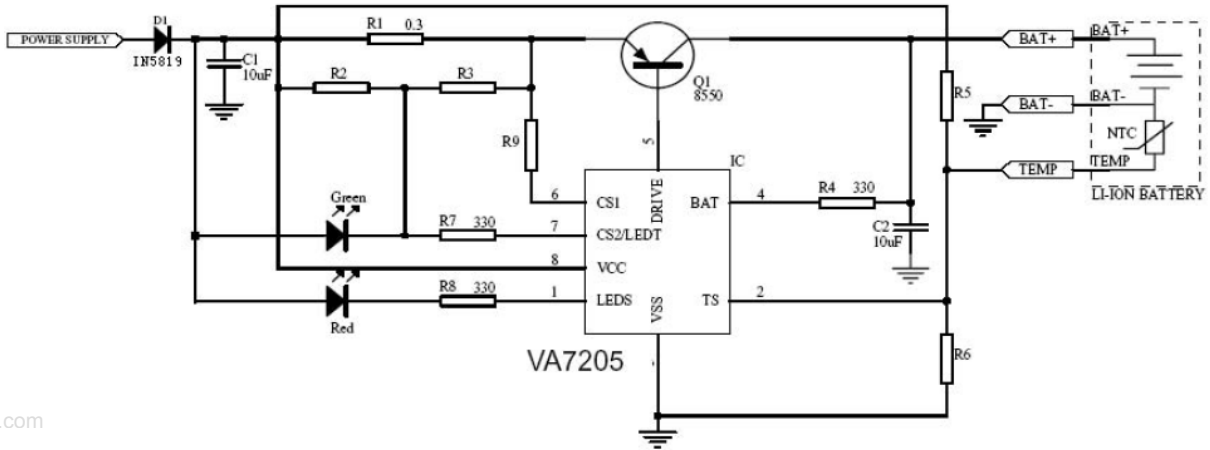
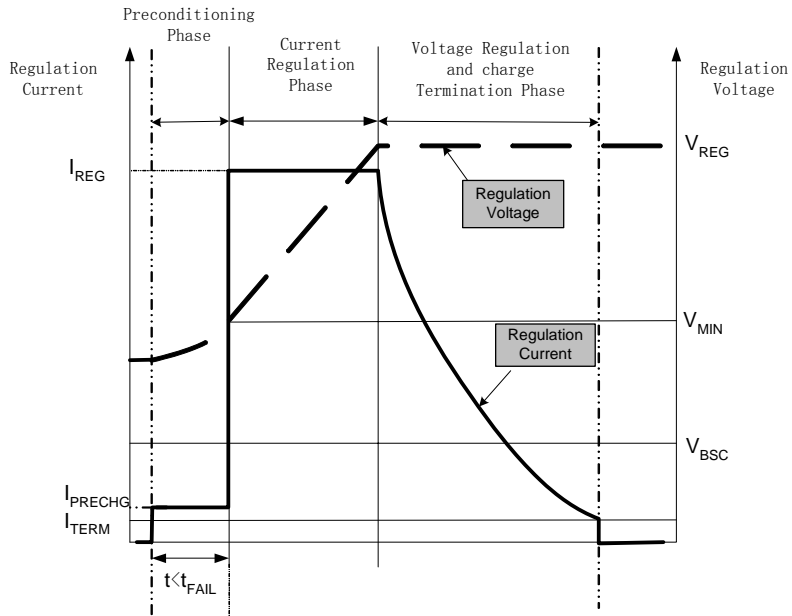

Figure 3 Li-ion/Li-Pol Charger Using a PNP Pass Transistor
Figure 4 Typical Charge Profile
2. Please use application circuit schematic in Figure 3 and Figure 5.
The VA7205 is an advanced linear charge controller for single Li-Ion or Li-Pol applications. Figure 3 shows the schematic of charger using a PNP pass transistor. Figure 4 is a typical charge profile. Figure 5 shows the schematic of a charger using P-Channel MOSFET. Figure 6 is an operational state diagram.
Charge qualification is based on battery voltage and temperature. If the battery voltage is below the pre-charge threshold V_{MIN} , the VA7205 uses pre-charge to condition the battery. The conditioning charge current I_{PRECHG} is adjustable with an external resistor R9 shown in Figure 3 and Figure 5. R9 is connected between CS1 pin and the emitter of external PNP or source of external PMOS. There is also an on-chip $5.1K\Omega$ resistor connected between CS1 pin and VCC. During pre-charge stage, the voltage drop between VCC and CS1 pin is V_{CSPRE} , so the pre-charge current is set to be
Let's analyze Fig. 3, considering R2 is in parallel with LED Green, in addition, after finishing charging, R3 is in parallel with LED Green as well (R1 is very small so we can neglect its effect), therefore, both R2 and R3 cannot be too small or LED Green will be dim. Generally, we choose R2 and R3 over $3k\Omega$. In order to determine the value of R2 and R3, we first find the equation between R2 and R3.
From Fig. 3, we can get: